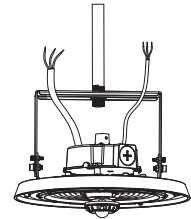

Figure 11
4. After installation, connect the wire of the fixture to the mains according to local wiring rules, ensure the connection is stable and make good protection on the connection. By adjusting the brackets screws, users can adjust 50° to the left or right vertically. (Figure 11)